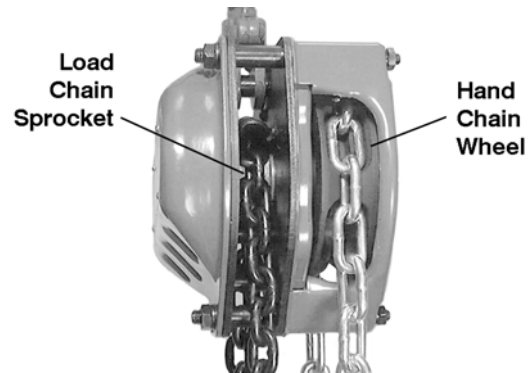

Figure 10
8. If installing entire new chain, insert the end of the hand chain into the groove at the top of the hand chain wheel (see Figure 10). Rotate the handwheel and pull the chain through.
Install the new load chain onto the load chain sprocket as follows, referring to Fig. 10: